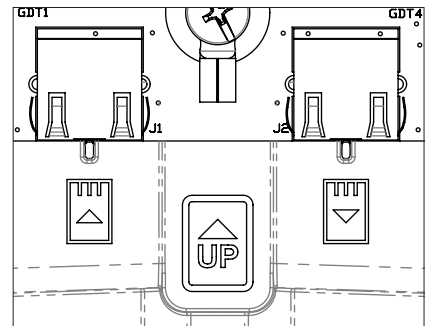

Figure 7 - Icon information
1. There are three icons visible when the unit is open (see Figure 7). The icon located in center denotes orientation of the unit.